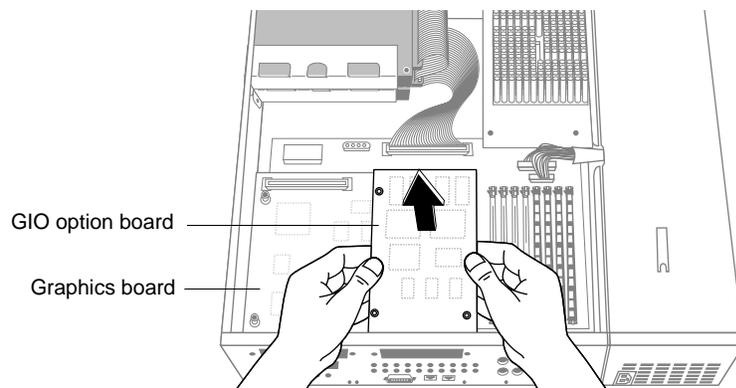

Figure 1-8 Removing the GIO Board
- Grasp the board on the sides and pull it up, as shown in Figure 1-8. This separates the connector on the underside of the GIO board from the connector on the graphics board.